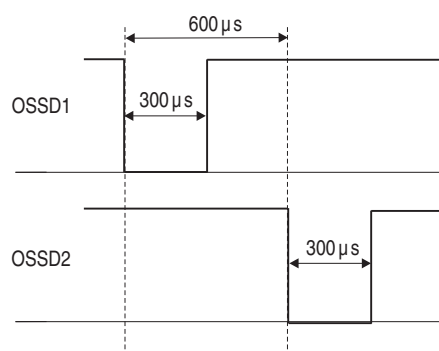

Figure 66: Shut-down test
After a further half basic response time of the SafeZone safety laser scanner there is a shut-down test ②, 120 ms later a further voltage test ③. Then the SafeZone safety laser scanner performs a shut-down test and a voltage test alternately at an interval of 120 ms. Figure 66, Figure 67 and Figure 68 show the pulse durations for the individual tests.